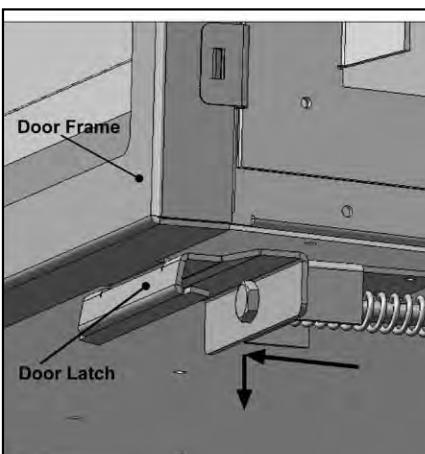

Figure 47: Door Latch Locations.
- 3) Pull the Door Frame at the bottom forward about 2" (5cm), then lift the Door Frame upwards to clear the Upper Door Hooks. Refer to Figures 47 & 48.